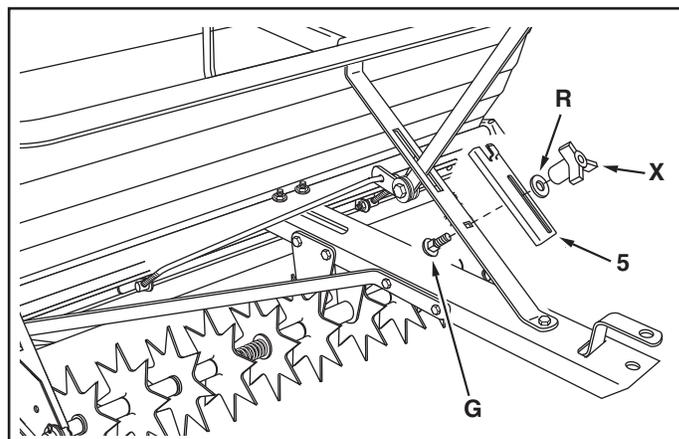

FIGURE 25
39. Assemble the flow control gauge (5) to the hopper brace using the 1/4" x 3/4" carriage bolt (G), a nylon washer (R) and the plastic knob (X). See figure 25.